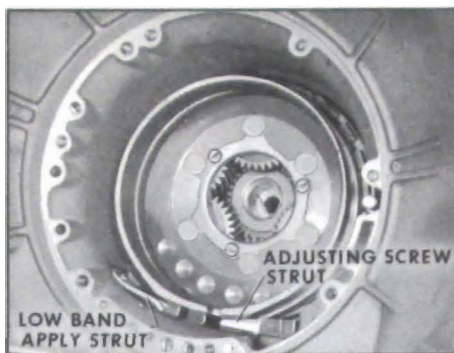

Figure 5-317
4. Install low band apply strut and band adjusting screw strut. After both struts have been installed, tighten low band adjusting screw enough to prevent struts from falling out. See Figure 5-317.